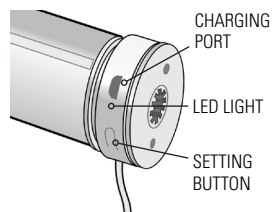

Figure 11: Motor End
- Insert the charging cord into the charging port on the end of the shade tube [Figure 11], and plug the other end of the power adaptor into an outlet.
3. Check the motor by pressing the setting button on the motor head **[Figure 11]**.
If for some reason the shade direction is reversed, press and hold the Setting Button on the motor crown until the shade jogs 3 times **[Figure 11]**.
1. Press & hold the Setting Button on the shade motor end until the shade jogs 4 times then beeps 3 times **[Figure 11]**. This removes all programming.